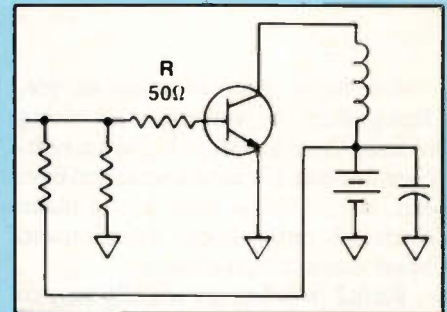

Figure 2.
6. The transistor circuit in Figure 2 is used to amplify signals at a very high frequency. Resistor R is used to reduce the